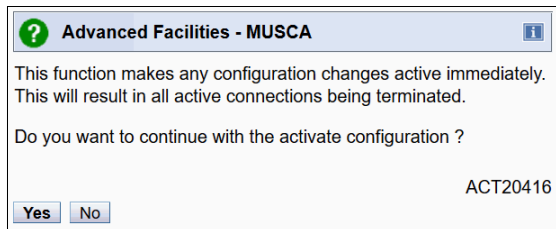

Figure 7-12 Activate configuration confirmation
15. The confirmation panel appears. Click **Yes** to continue (see Figure 7-12).